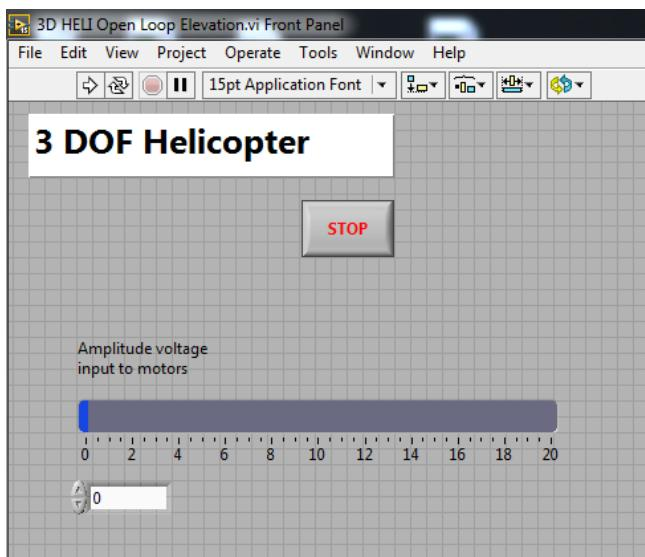

Figure 3: LabVIEW VI used to run the real system in open-loop configuration.
2. In the front panel a slider can be seen, as that shown in Figure 3. This is used to control both motors' voltages.2